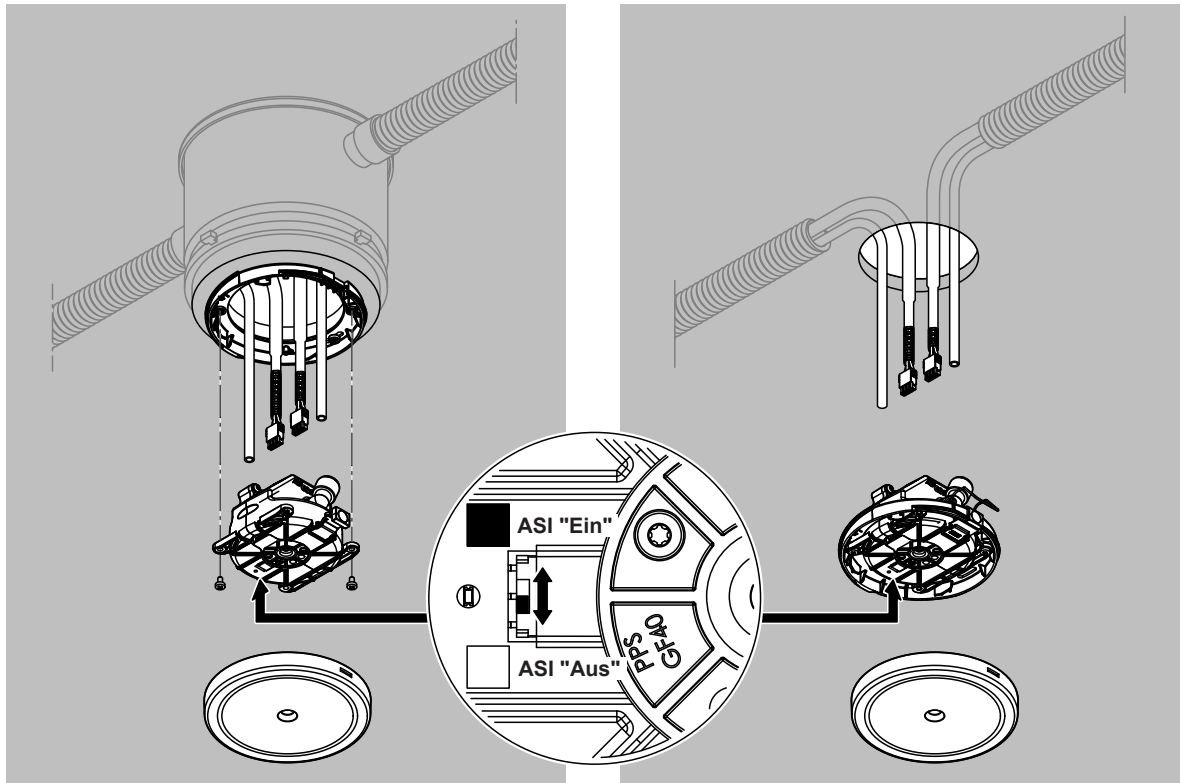

Fig. 75: Replacing the humidifier unit (screwed version on the left, pluggable version on the right)
3. Loosen the two screws (screwed version only, see Fig. 75 left).